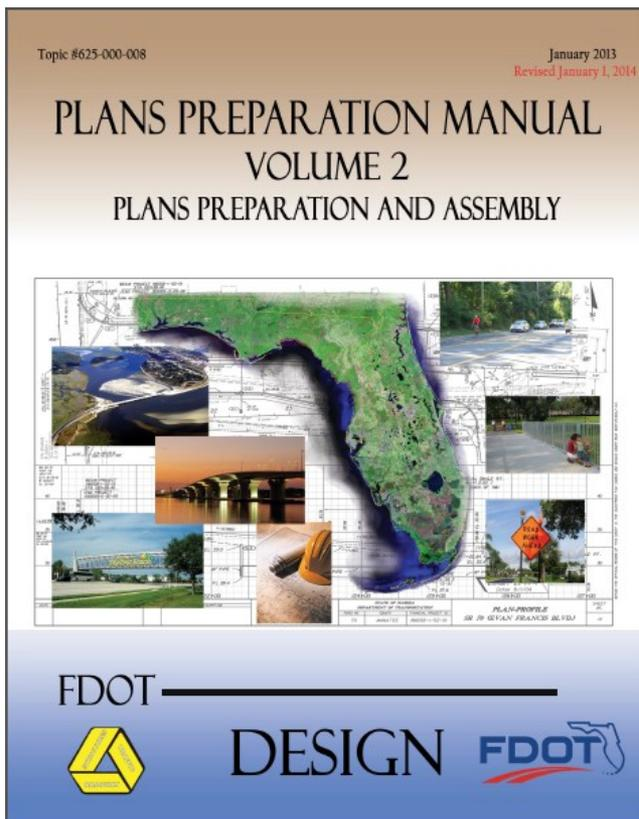

Figure 2.1 Summary of Phase Submittals
- ◆ FHWA will allow any work to be completed by FDOT in the PD&E process that is listed as “preliminary” in the *Sequence of Plans Preparation Chapter, Volume 2, Chapter 2, PPM, Topic No. 625-000-008, and Figure 2.1.*